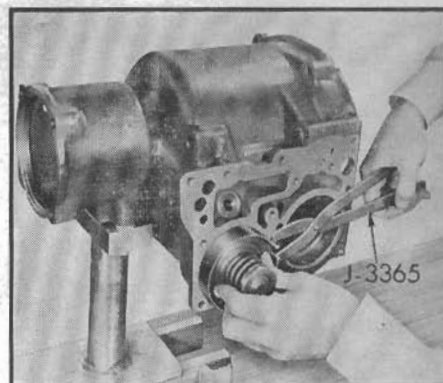

Fig. 61 Installing reverse servo piston. 1950-59
2. Install reverse servo piston, using ring compressor J-3365, Fig. 61. Notch on shaft should be positioned toward front of transmission case.
4. Install reverse servo piston, using ring compressor J-3365. Notch on shaft should be toward front of transmission case, Fig. 61.